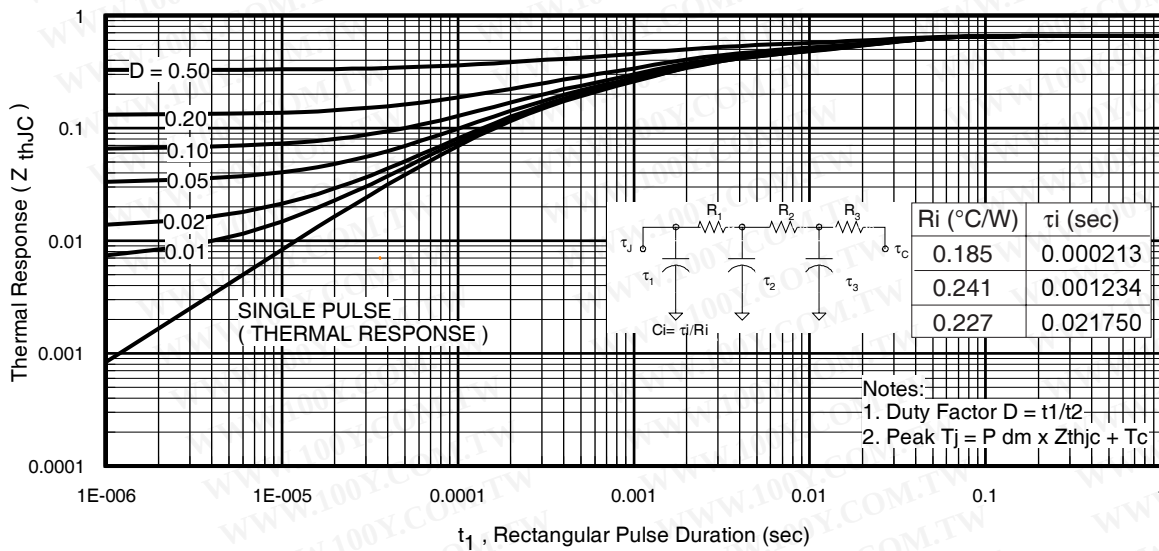
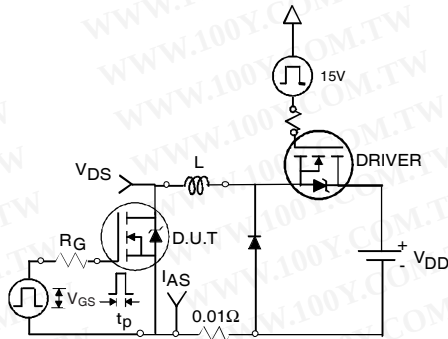

Fig 11. Maximum Effective Transient Thermal Impedance, Junction-to-Case
Fig 12a. Unclamped Inductive Test Circuit
- ① Repetitive rating; pulse width limited by max. junction temperature. (See fig. 11).
- ② Limited by T_{Jmax} , starting $T_J = 25^\circ\text{C}$, $L = 0.079mH$, $R_G = 25\Omega$, $I_{AS} = 75A$, $V_{GS} = 10V$. Part not recommended for use above this value.
- ③ Pulse width $\leq 1.0ms$; duty cycle $\leq 2\%$.
- ④ $C_{oss\ eff.}$ is a fixed capacitance that gives the same charging time as C_{oss} while V_{DS} is rising from 0 to 80% V_{DSS} .
- ⑤ Limited by T_{Jmax} , see Fig.12a, 12b, 15, 16 for typical repetitive avalanche performance.
- ⑥ This value determined from sample failure population. 100% tested to this value in production.
- ⑦ This is only applied to TO-220AB package.
- ⑧ When mounted on 1" square PCB (FR-4 or G-10 Material). For recommended footprint and soldering techniques refer to application note #AN-994.
3. Equation below based on circuit and waveforms shown in Figures 12a, 12b.
$Z_{thJC}(D, t_{av})$ = Transient thermal resistance, see figure 11)